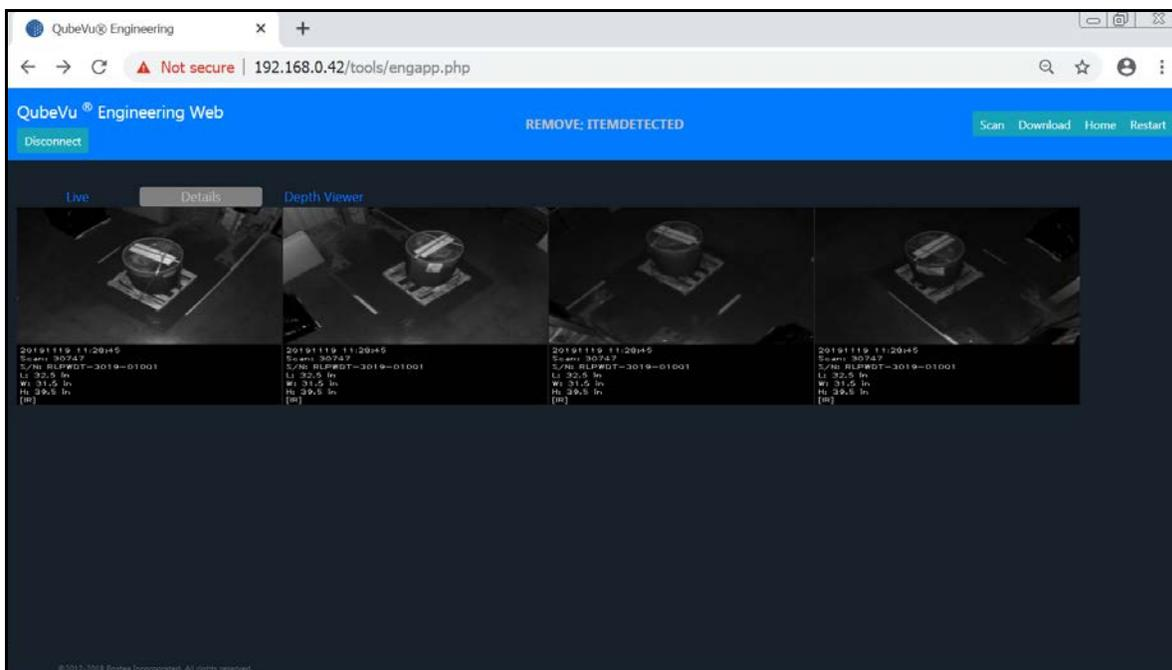

Figure 13-1. Engineering Application
- The example in Figure 13-1 is: <http://192.168.0.42/tools/engapp.php>
Connect is located in the same spot as **Disconnect**. Figure 13-1 is for reference.
Details may not be live until the device has detected an object. Figure 13-1 is for reference.